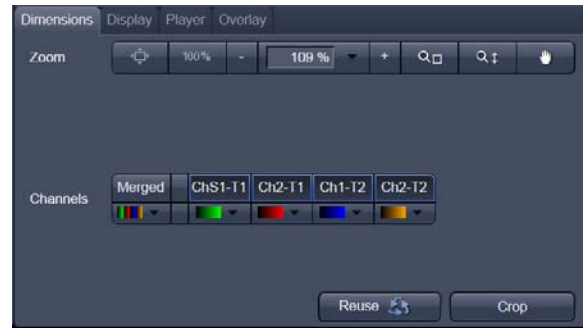

Fig. 23 View Dimensions Control Tab
- In the **View – Dimensions** View Option Control Tab, click inside the color field in the  button under the channel button (Fig. 23).